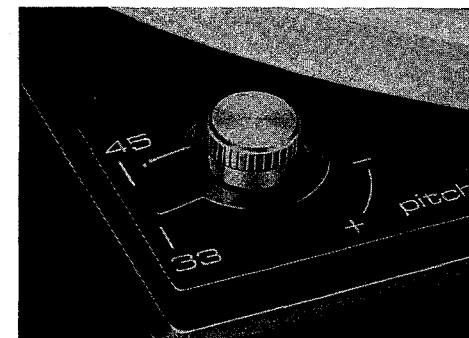

Fig. 22
Each of the two standards speeds (33 1/3 and 45 rpm) can be varied with the pitch control. Adjustment is made with pitch control knob (2) (Fig. 22). Adjustment range at 33 1/3 rpm approx. 1 semitone (6 %). The illuminated strobe mechanism can be used to adjust the exact speeds for 33 1/3 while a record is playing (Fig. 22). When the turntable rotates at exactly 33 1/3 no movement of the bars is observed. If the bars appear to advance in the same direction as the turntable the turntable speed is too high. If the bars appear to retreat, the speed is too low.
L'altezza del tono può essere variata in ognuna delle due velocità, 33 1/3 e 45 giri/min.. La regolazione si effettua a mezzo della manopola „pitch” (2) (Fig. 22).